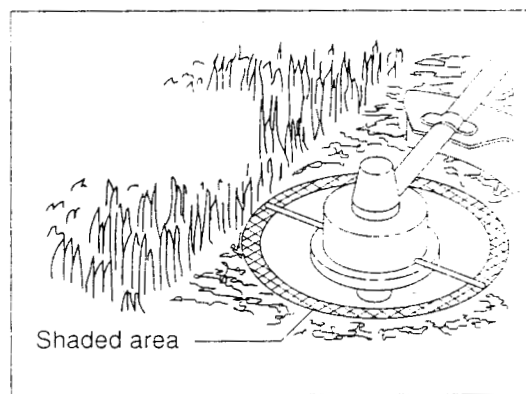

Fig. 41
1. Increase the cutter head speed to approx. 6,000 RPM. Low speed (under 4,000 RPM) causes inefficient cutting. Use the tip of the nylon cord (shaded area shown in Fig. 41) for more effective cutting.